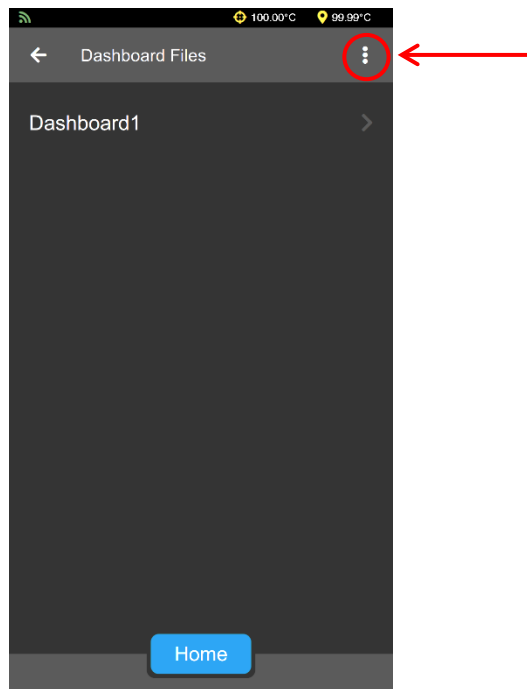

Figure 51: Dashboard Files Screen
- From the Dashboard Files Screen, use a single touch on the three dots in the upper right-hand side of screen. See Figure 51.
3. From the Dashboard Files Screen, use a single touch on the three dots in the upper right-hand side of screen. See Figure 51.